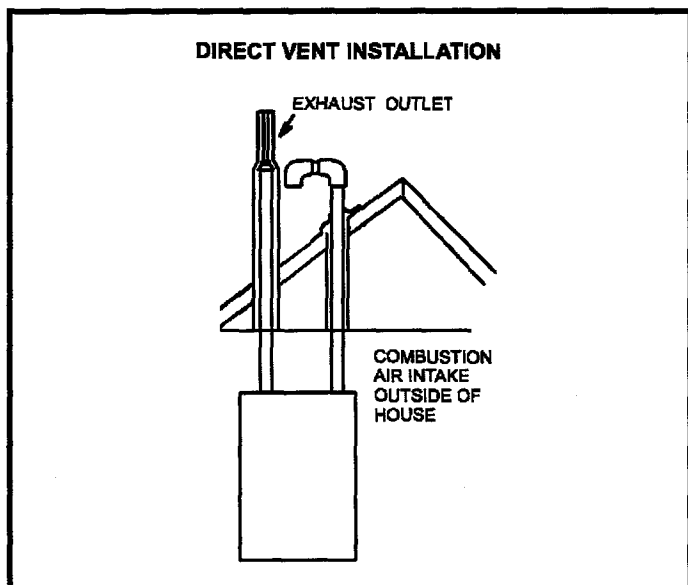

Figure 2
**NOTE:** In Direct Vent installations, combustion air is taken from outdoors and flue gases are discharged outdoors. See Figure 2 for application involving roof termination.